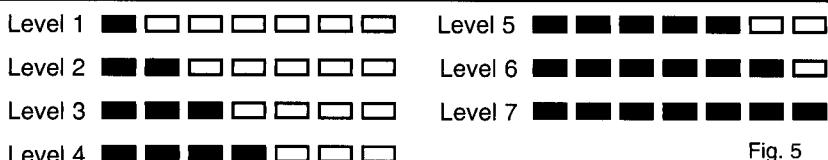

Fig. 5
1. To adjust the sensitivity, press the SENSITIVITY Δ or SENSITIVITY ∇ key. When the key is pressed, the visual display will show the LED's red. The number of LED's lit, indicates the level (See Fig 5). Level one (lowest sensitivity) is shown by the leftmost LED. Counting from left, levels 2 through 7 are indicated by the corresponding number of red LED's; i.e. level 7 is shown by all LED's lit.